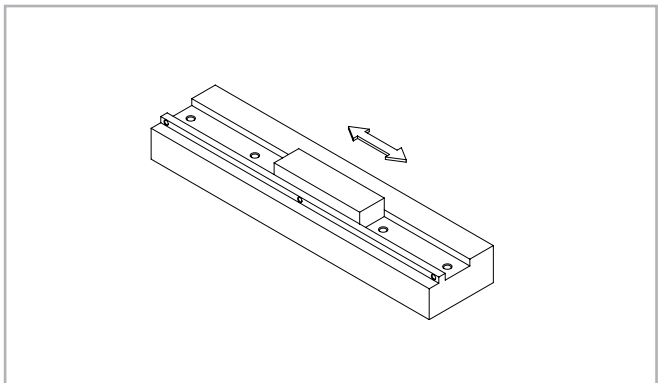

Fig. 53
(1) Whet the assembly surface with a whetstone and also remove burrs, unevenness and dirt (see fig. 53).